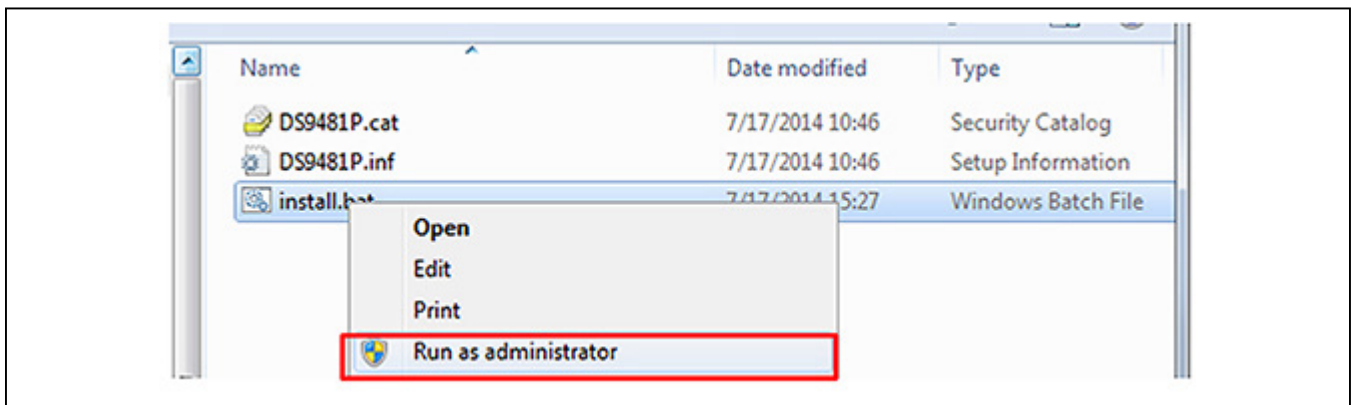
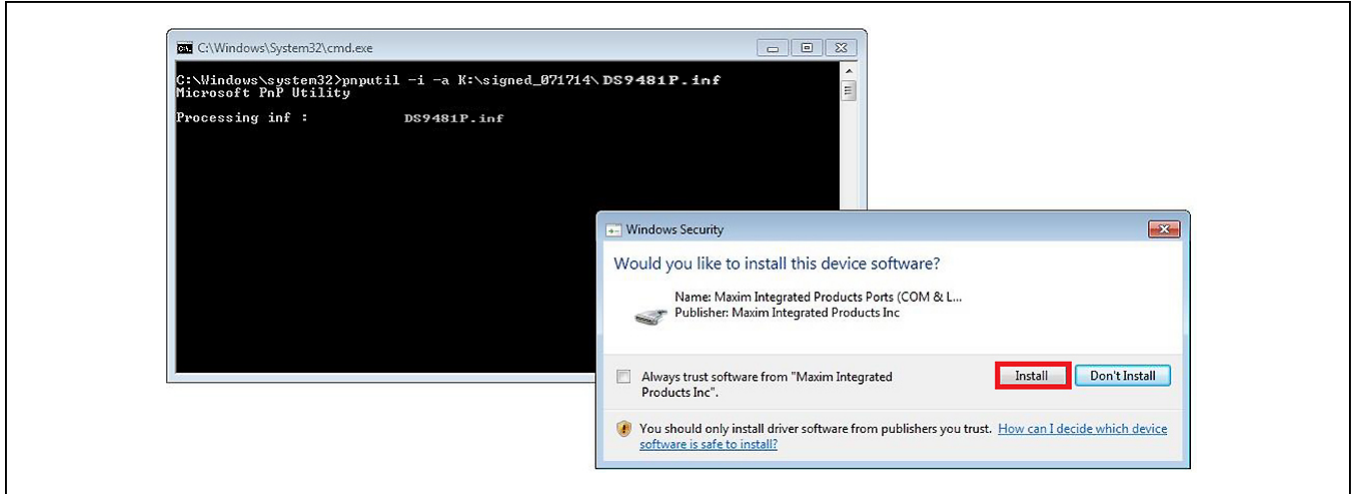
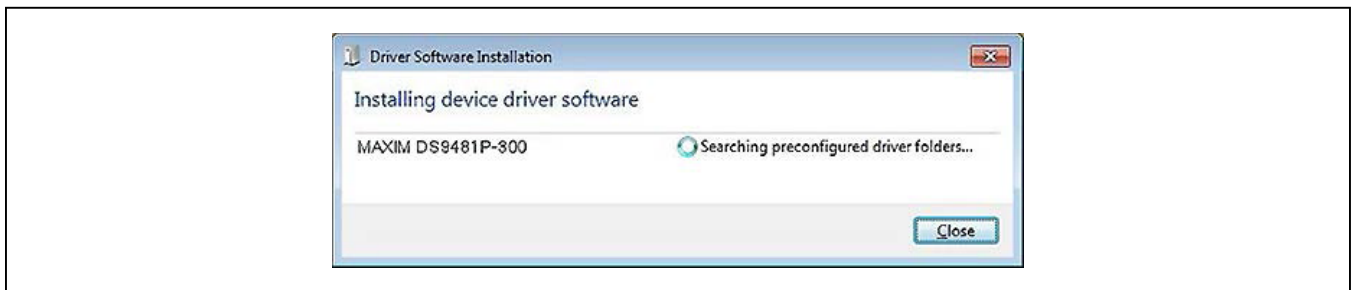

Figure 7. Device Driver Installation
Figure 8. Device Driver (Install Device Software)
Figure 9. Device Driver Successfully Installed
- 1) Install the 1-Wire drivers as shown in Figure 7, Figure 8, and Figure 9.
- 6) Right-click on **install.bat** and then choose **Run as administrator** (Figure 7).
- 7) A command window opens with a prompt asking to install the device driver (Figure 8). Click **Install**.
- 11) The device will automatically search for and install the driver (Figure 9).